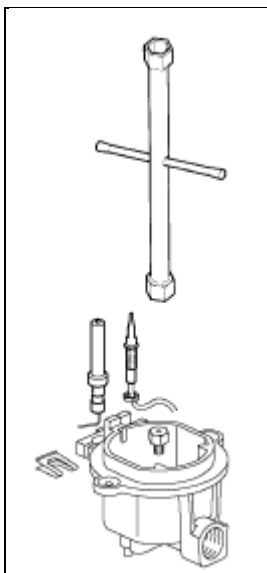

fig.1
- Unscrew the nozzles using a 7 mm spanner, and replace them (fig. 1) with those needed for the new type of gas according to what is indicated in table below.